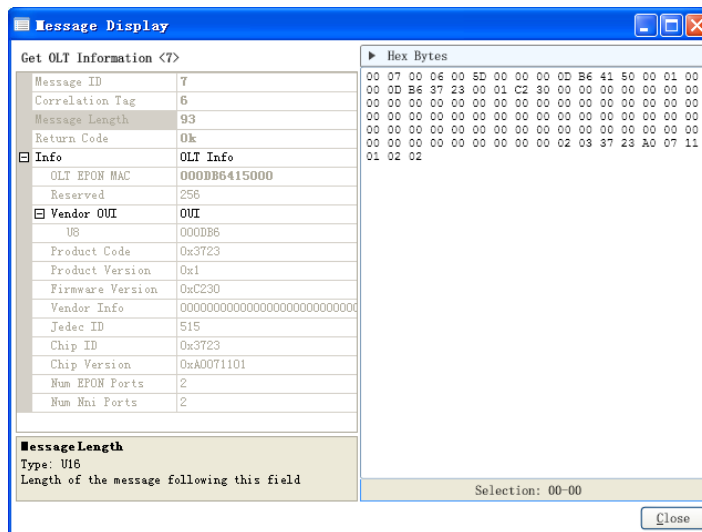

Figure 2-5 Message Parse Window
- ✓ A message window is displayed at the bottom of the window, in which details of message can be viewed. Double click it to display the window of message parse shown in the Figure 2-5.